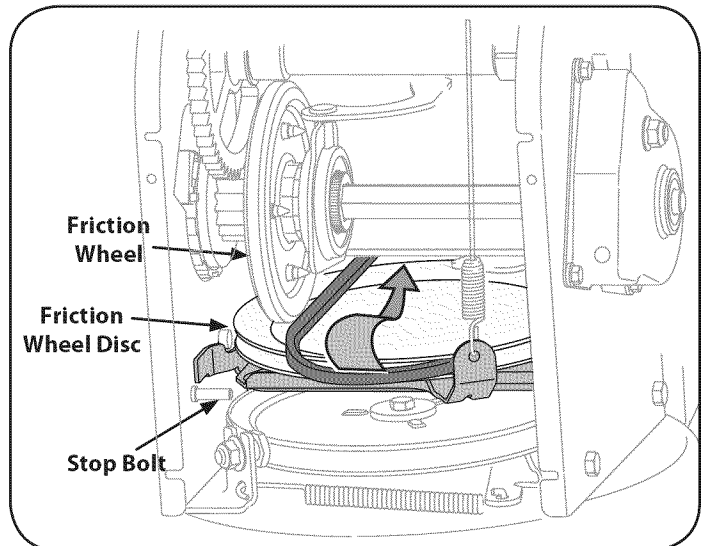

Figure 34
6. Back out the stop bolt to increase the clearance between the friction wheel disc and friction wheel. See Figure 34.
7. Slip the drive belt off the friction wheel disc and between friction wheel and friction wheel disc. See Figure 34.